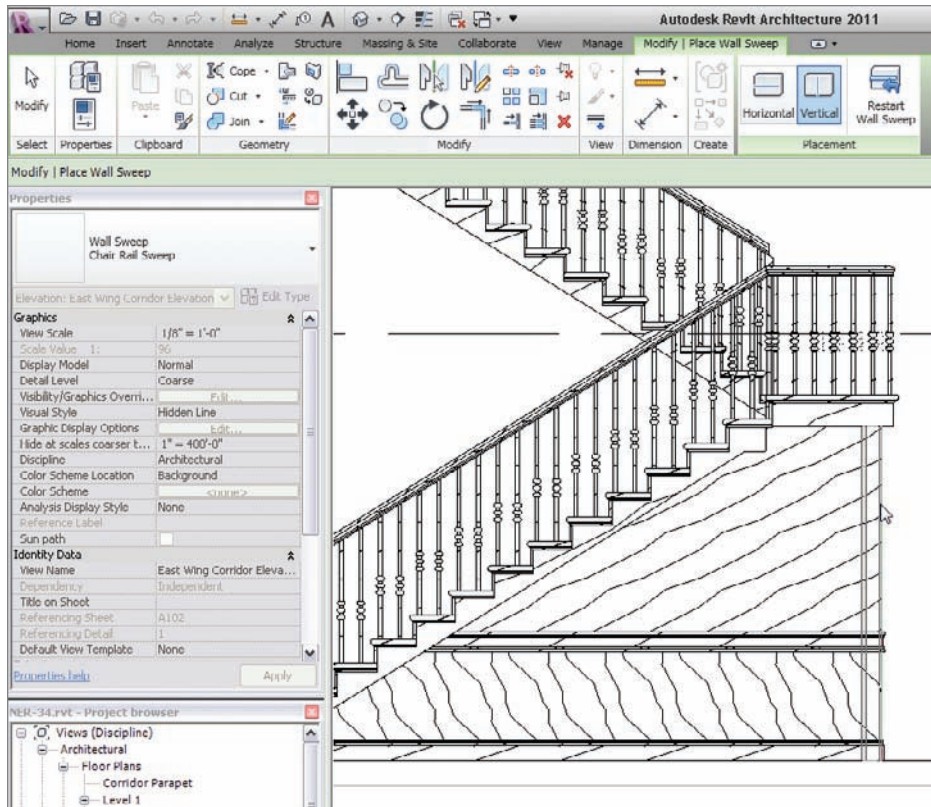

FIGURE 16.17 Adding the profile as well as the material to the host sweep
6. For the profile, choose Casing Profile-2 : 5 1/2" x 13/16" from the list, as shown in Figure 16.17.
7. For the Material, choose Wood - Mahogany (see Figure 16.17).
9. On the Modify | Place Wall Sweep tab, click Vertical on the Placement panel, as shown in Figure 16.17.